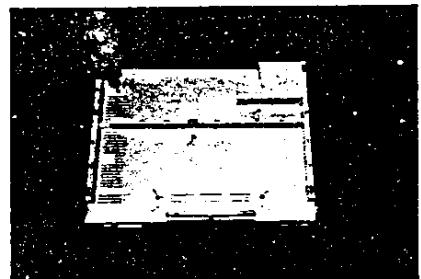

Fig. 2-4. Bottom View
2.3.3 Turn the computer up-side down and remove the 5 self-tapping screws from the hollows of the bottom housing. See Fig. 2-4.
2.3.4 Remove the 2 flush-mount screws located by the front bezel. See Fig. 2-4.